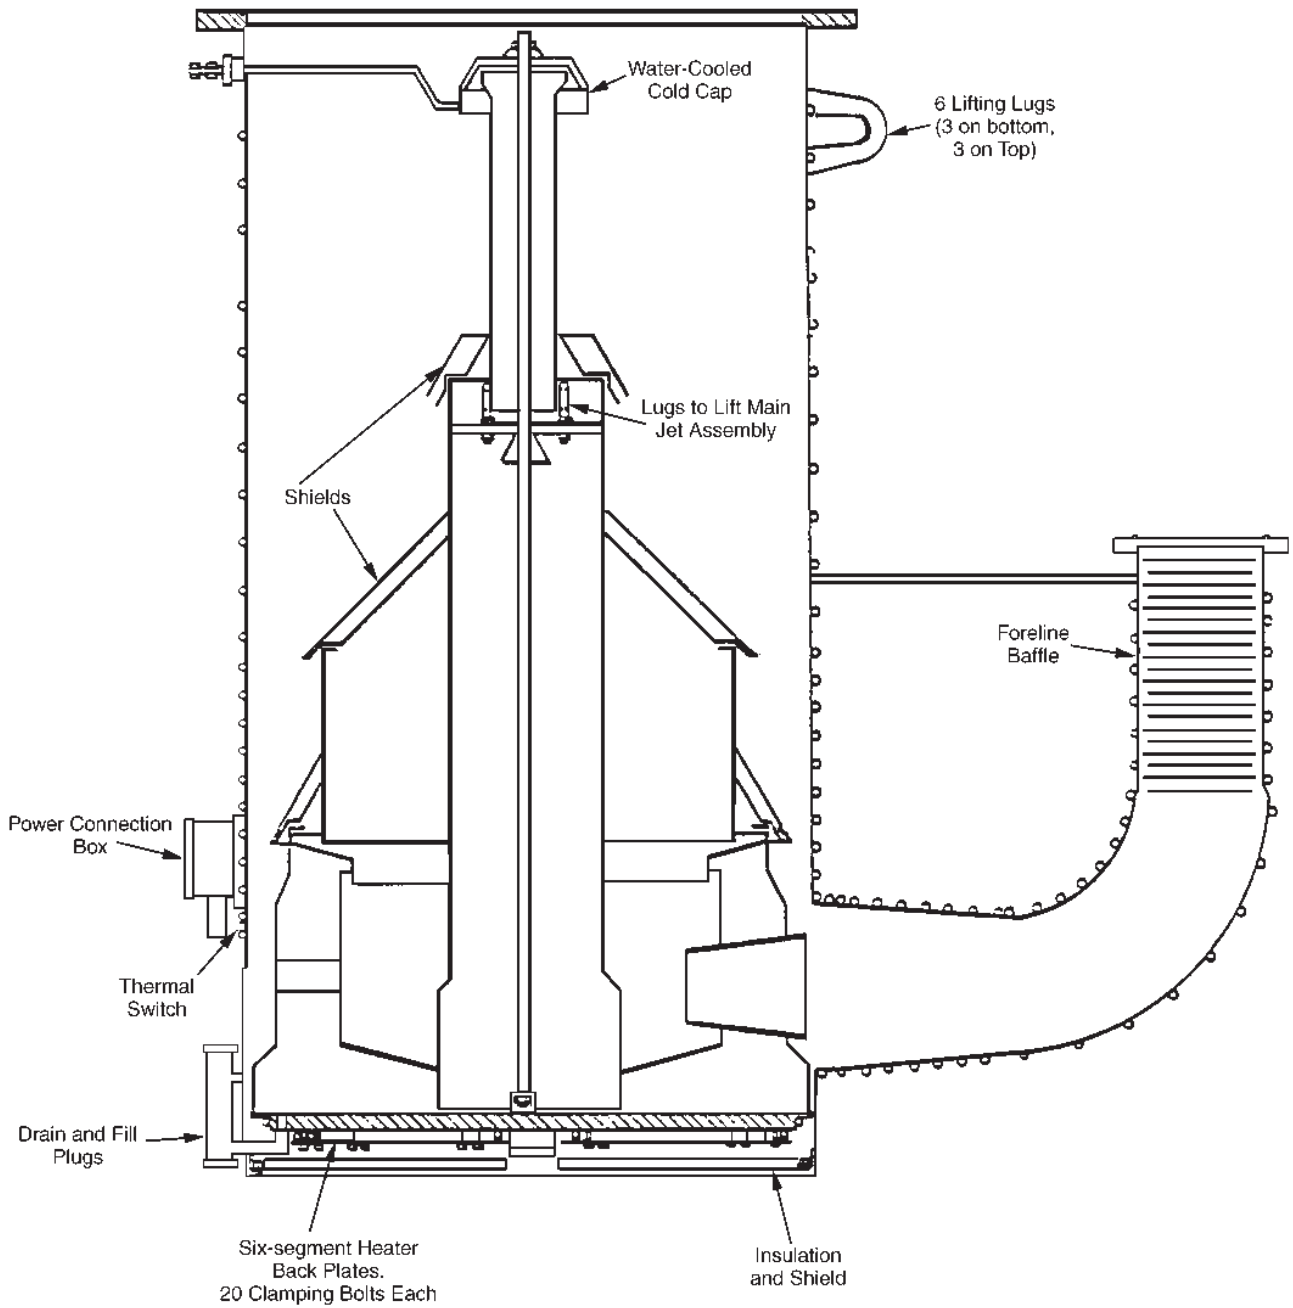

Figure 1-3. Section Drawing – NHS-35 Diffusion Pump
- b. Disassemble the internal jet system from the body of the pump. See Figure 1-3 for a section drawing of a typical jet assembly.